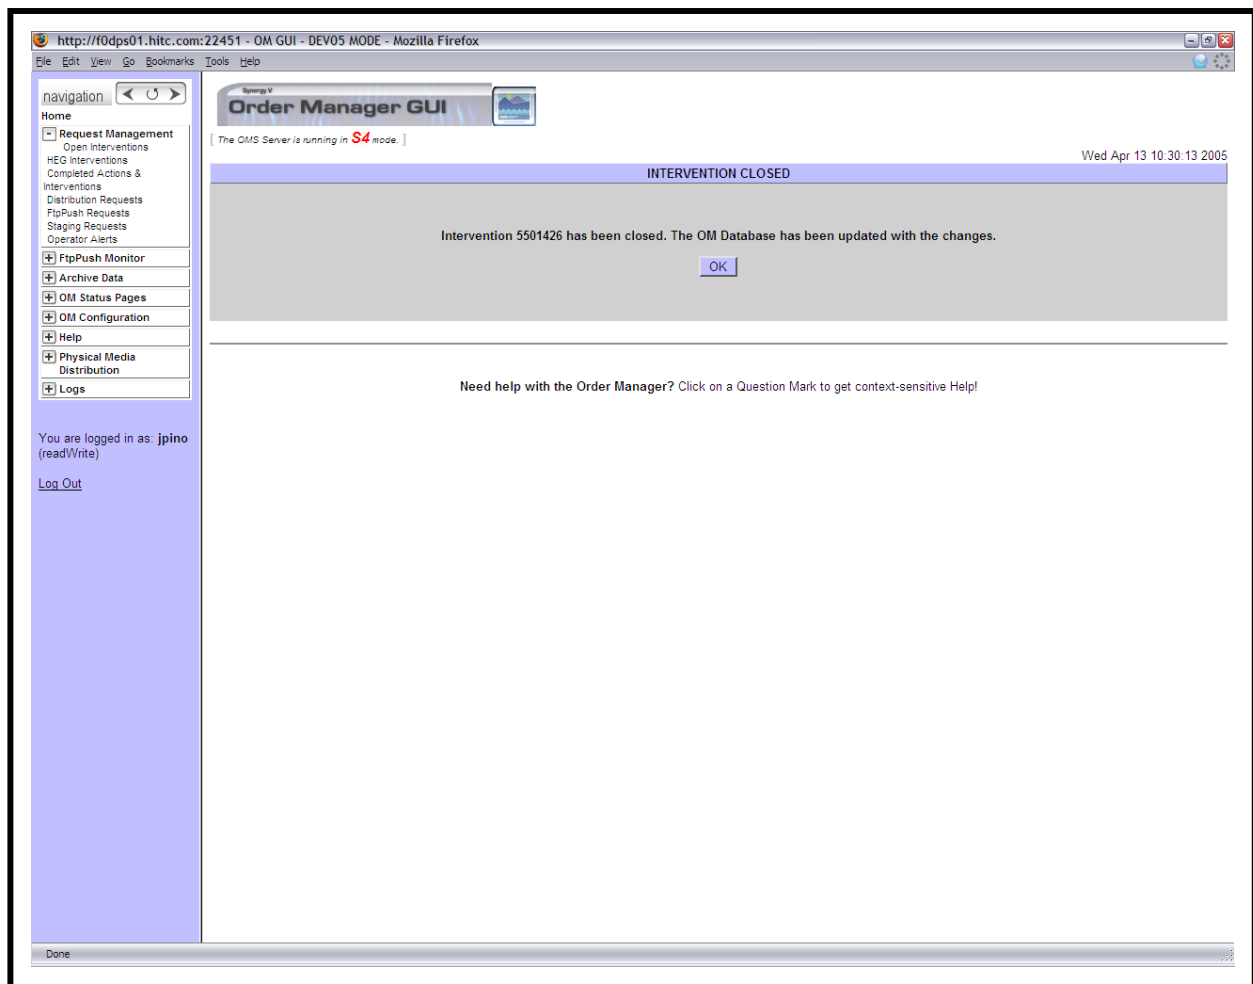

Figure 30. Intervention Disposition Page
- An **Intervention Closed** page (Figure 30) is displayed
- 26 To exit from the **Intervention Closed** page (Figure 30), click on the **OK** button.
- The **Intervention Closed** page (Figure 30) is dismissed.